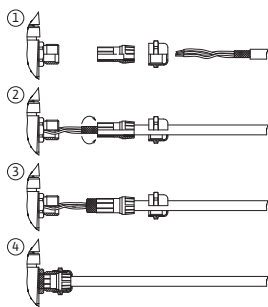

Fig. 25: Shield clamp
The shield is connected to the cable bushing on the electronic module. See Fig. 25.
The cables of the digital inputs, analogue inputs and bus communication must be shielded via the metal threaded cable gland of the cable bushing (Fig. 19, Item 4, 5 and 6). See Fig. 25 for shielding.
1. Carefully open the snap-in hooks (Fig. 25) with a tool (e.g. screwdriver).